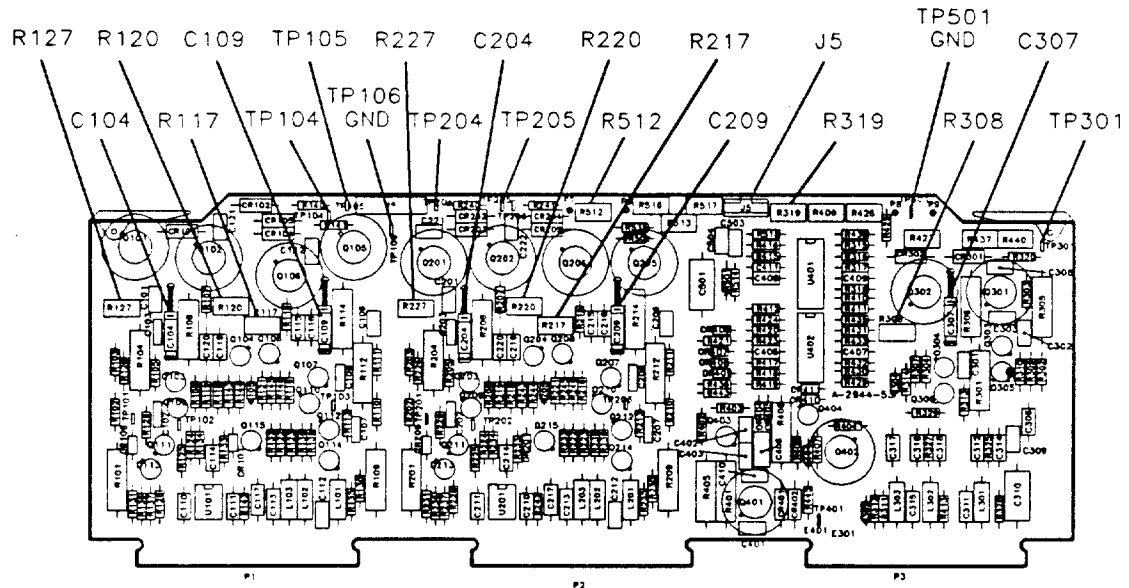
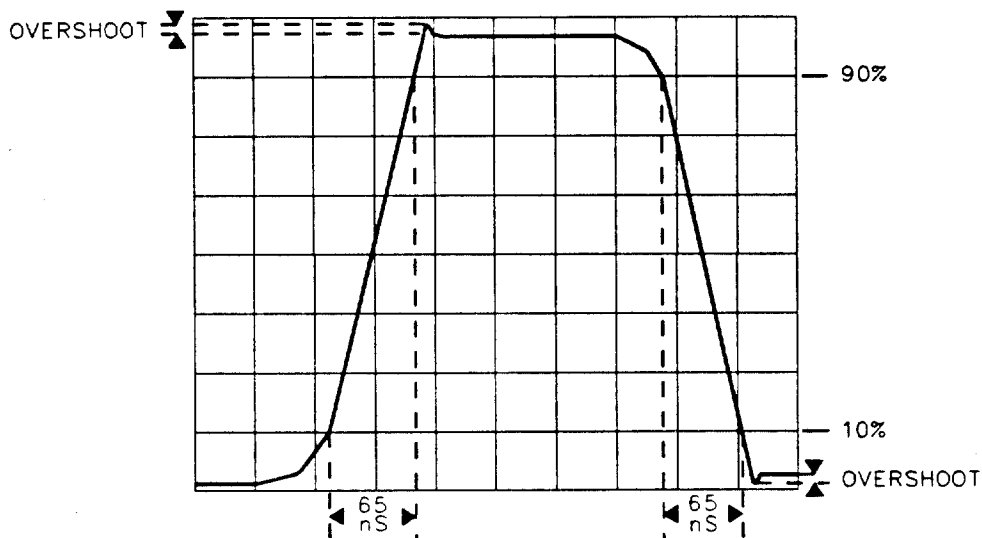

Figure 12. A1A2 Adjustment Locations
Figure 13. Rise and Fall Times and Overshoot Adjustment Waveform
21. Adjust **A1A2R227 X POSN** and **A1A2R220 X GAIN** for a full eight-division display on the oscilloscope, as shown in Figure 13. See Figure 12 for the location of the adjustments.
25. Connect the oscilloscope's channel 1 probe to A1A2TP104 and the channel 2 AUX probe to A1A2TP105. See Figure 12 for the location of the test points. Connect the output of the pulse generator to J2 (Y input) on the A3A2 Display Adjustment PC board.
35. Connect the oscilloscope's channel 1 probe to A1A2TP301. Connect the probe's ground lead to A1A2TP501. See Figure 12.
40. Adjust the spectrum analyzer's front-panel INTENSITY control for 50 V peak-to-peak (5 divisions) as indicated on the oscilloscope. Adjust the oscilloscope's channel 1 sensitivity and **offset** for a full eight-division display. See Figure 13.